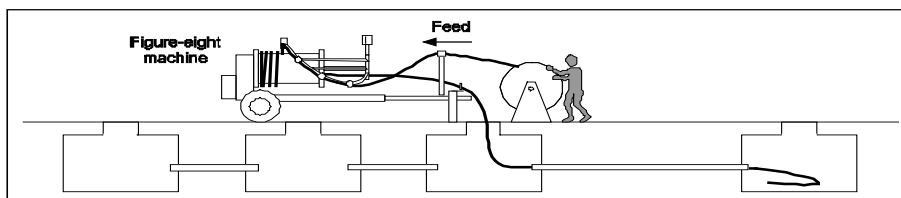

Figure 8 - Back-feeding using a figure-eight machine
- 6.06** An alternative to manually figure-eighting the cable off the reel before continuing the pull, is to use a figure-eight machine shown in Figure 8 below. Instead of pulling the cable from the reel and laying it on the ground, the cable is looped over the barrel of the figure-eight machine. Guided by a revolving arm and a series of rollers, the cable can be rapidly removed from the reel as it is wound around the machine's drum.